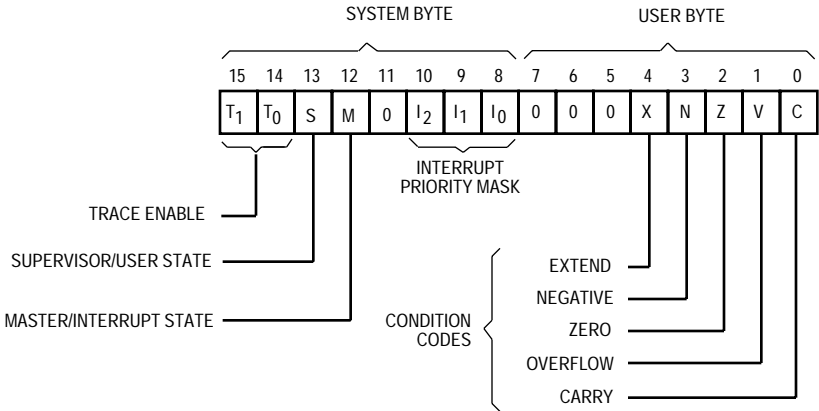

Figure 5. Status Register
The status register (see Figure 5) contains the interrupt priority mask (three bits) as well as the following condition codes: extend (X), negate (N), zero (Z), overflow (V), and carry (C). Additional control bits indicate that the controller is in the trace mode (T1 or T0), supervisor/user state (S), and master/interrupt state (M).